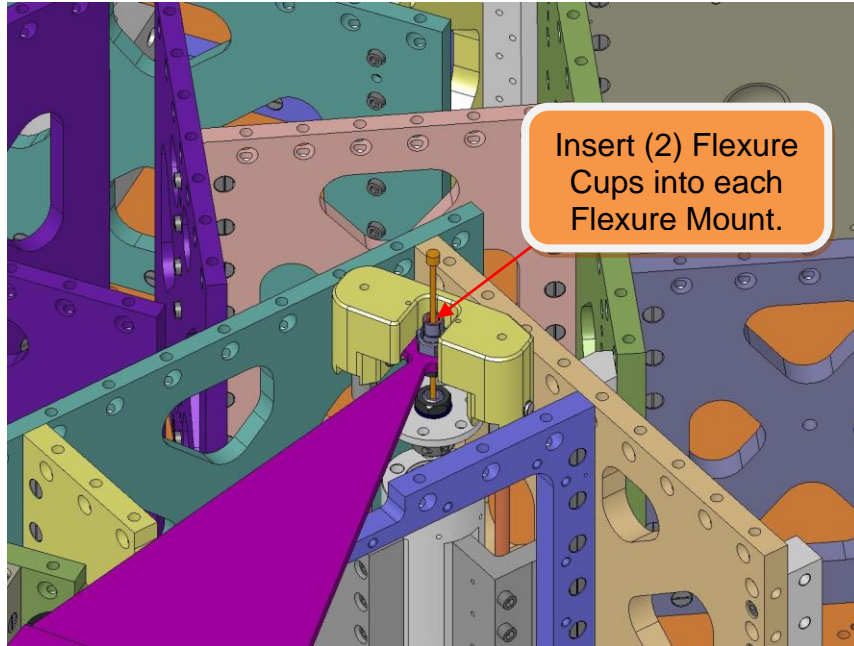

Figure 4.102. Preparing to clamp the Flexure Assemblies to Stage 0 and Stage 1: start by inserting (2) Flexure Cups into each Flexure Mount.
- As each **Spring** approaches horizontal, remove the O-ring from its top **Flexure Mount**, and insert (2) **Flexure Cups** (D071104), as shown in Figure 4.102. Try to align the **Cups** with the grooves in the **Mount**.